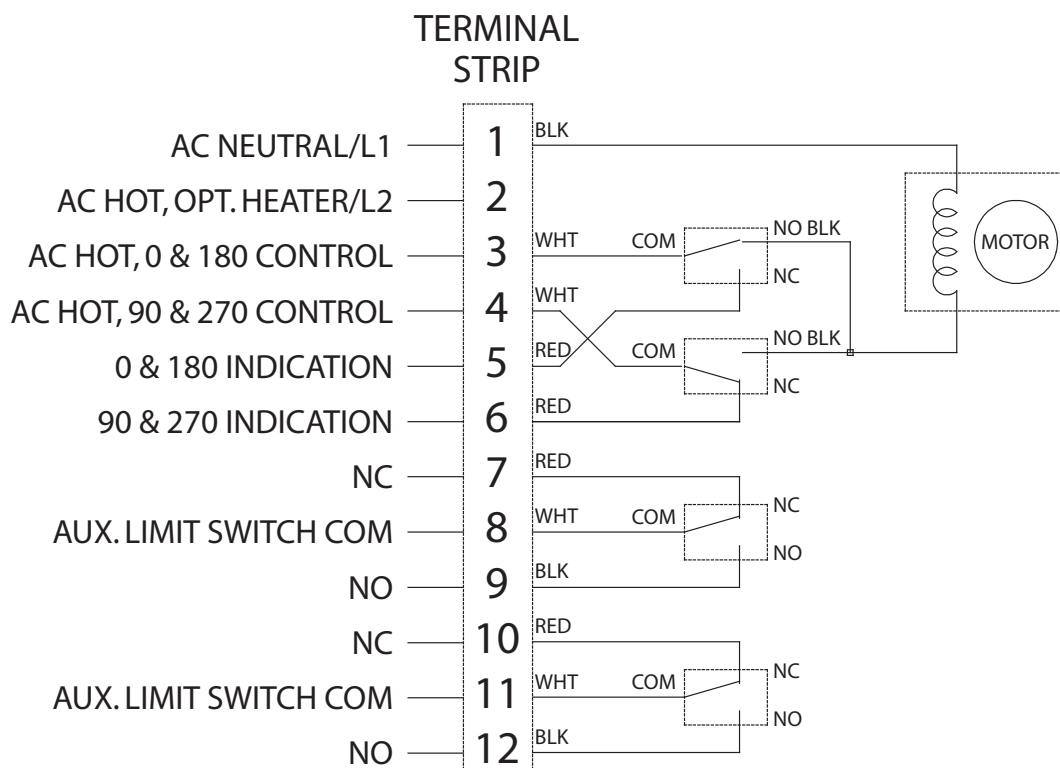

Figure 3A LCU-Series AC Wiring
The identification label on each actuator specifies the voltage and current requirements for the actuator. For convenience, Figures 3A and 3B show the standard power and control wiring connections for the actuator. The terminal strip is numbered from the bottom to the top. Since all LCU-Series actuators travel in the clockwise direction in 90° increments, applying power between terminals 1 and 4 will stop the actuator at the 90° or 270° positions (closed); applying power between terminals 1 and 3 will stop the actuator at the 0° or 180° positions (open).
2. Apply power to terminals 1 and 3 (See Figures 3A and 3B) to drive the actuator to the open position (clockwise rotation).
2. Apply power to terminals 1 and 4 (See Figures 3A and 3B) to drive the actuator to the closed position (clockwise rotation).